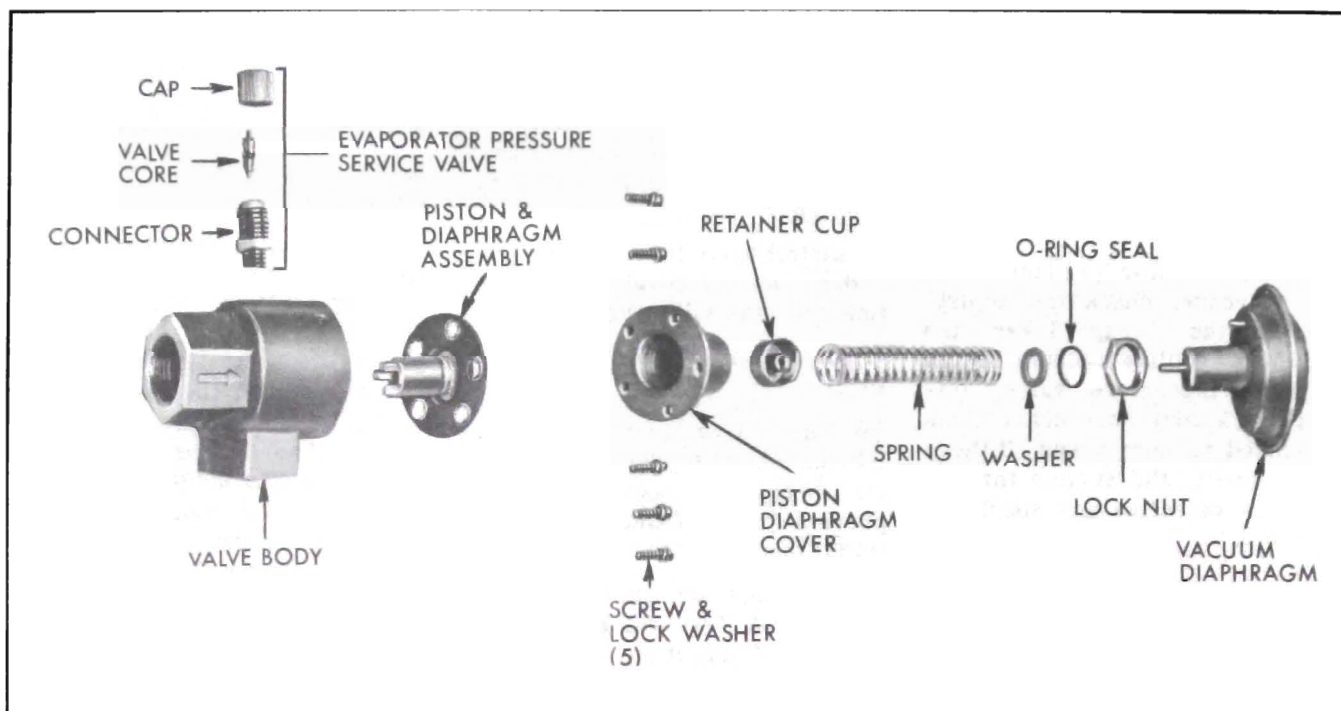

Figure 11-89—Exploded View of Suction Throttle Valve—4700 Series
1. With valve removed from car, loosen lock nut on vacuum diaphragm and turn diaphragm assembly out of cover. On 4700 valve, discard "O" ring on sleeve of diaphragm. See Figure 11-89.
NOTE: Figure 11-89 shows the 4700 series suction throttle valve. The 4400, 4600 and 4800 suction throttle valve is basically the same except a different vacuum diaphragm is used and an "O" ring is not used on the vacuum diaphragm.